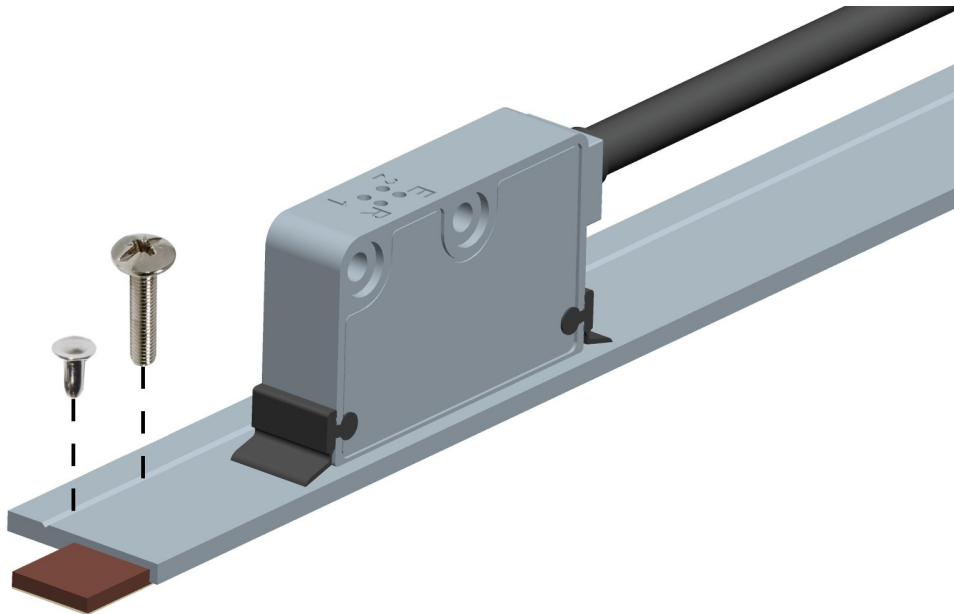

Figure 3 - Mounting the tape with PS1 profile
To install the KIT PS1-1,0 profile please refer to the "3.7.2 Mounting the tape with optional KIT PS1-1,0 aluminium profile (Figure 3)" section on page 20.
3.7.2 Mounting the tape with optional KIT PS1-1,0 aluminium profile (Figure 3)